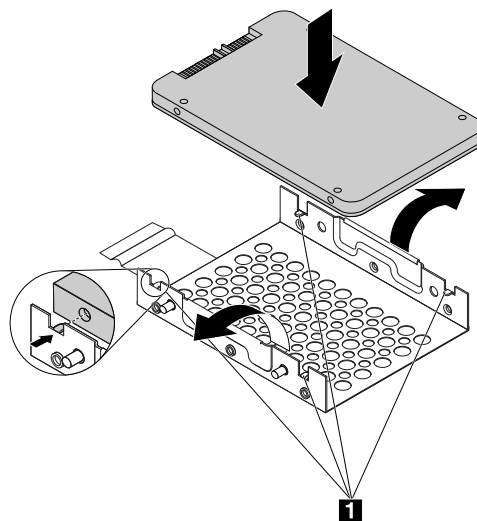

Figure 71. Installing the storage drive into the metal bracket of the converter
6. Install the new storage drive into the converter. See Figure 71 “Installing the storage drive into the metal bracket of the converter” on page 106.